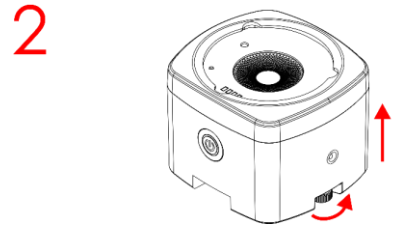

Fig. 10
- 01) Remove the **mounting bracket (05)** from the device.
- 02) Place the device on flat surface, as shown in Fig. 10.
- 03) Adjust the angle of the device with the **tilt adjustment screw (12)**.